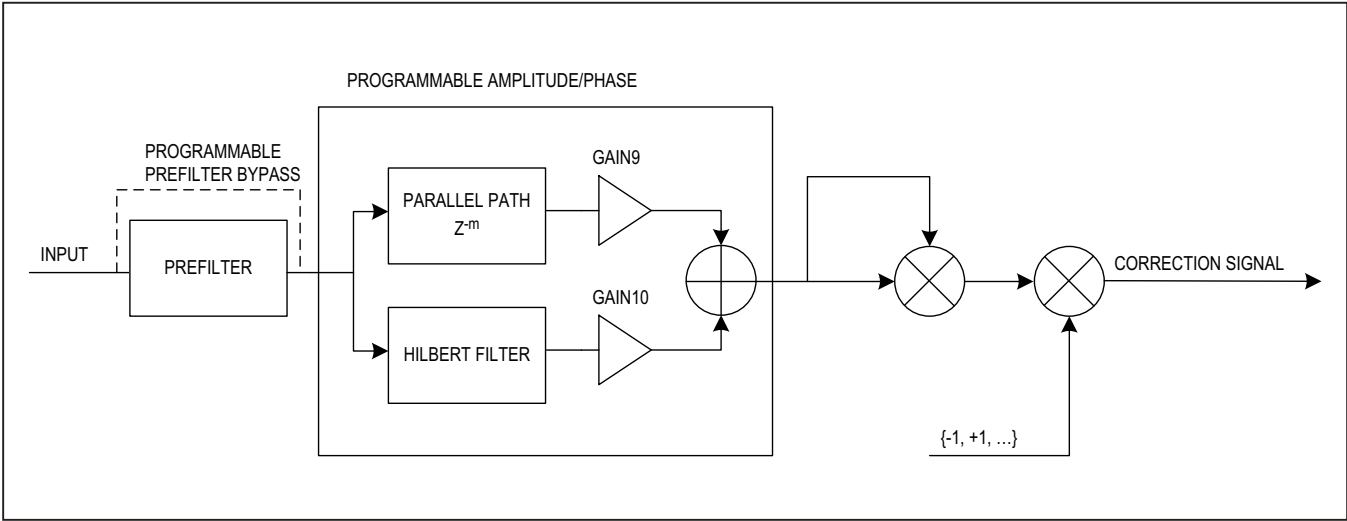

Figure 24. $f_{DAC}/2 - 2f_{OUT}$ DAC DPD
- $f_{DAC/2} - 2f_{OUT}$ DPD: This block allows for the correction of $f_{DAC/2} - 2f_{OUT}$ spur. The block diagram of this section is shown in Figure 24.
The $f_{DAC}/2 - 2f_{OUT}$ DPD block (Figure 24) includes a bypassable pre-filter with a nonlinear phase response that approximates the characteristics of the MAX5861's RF